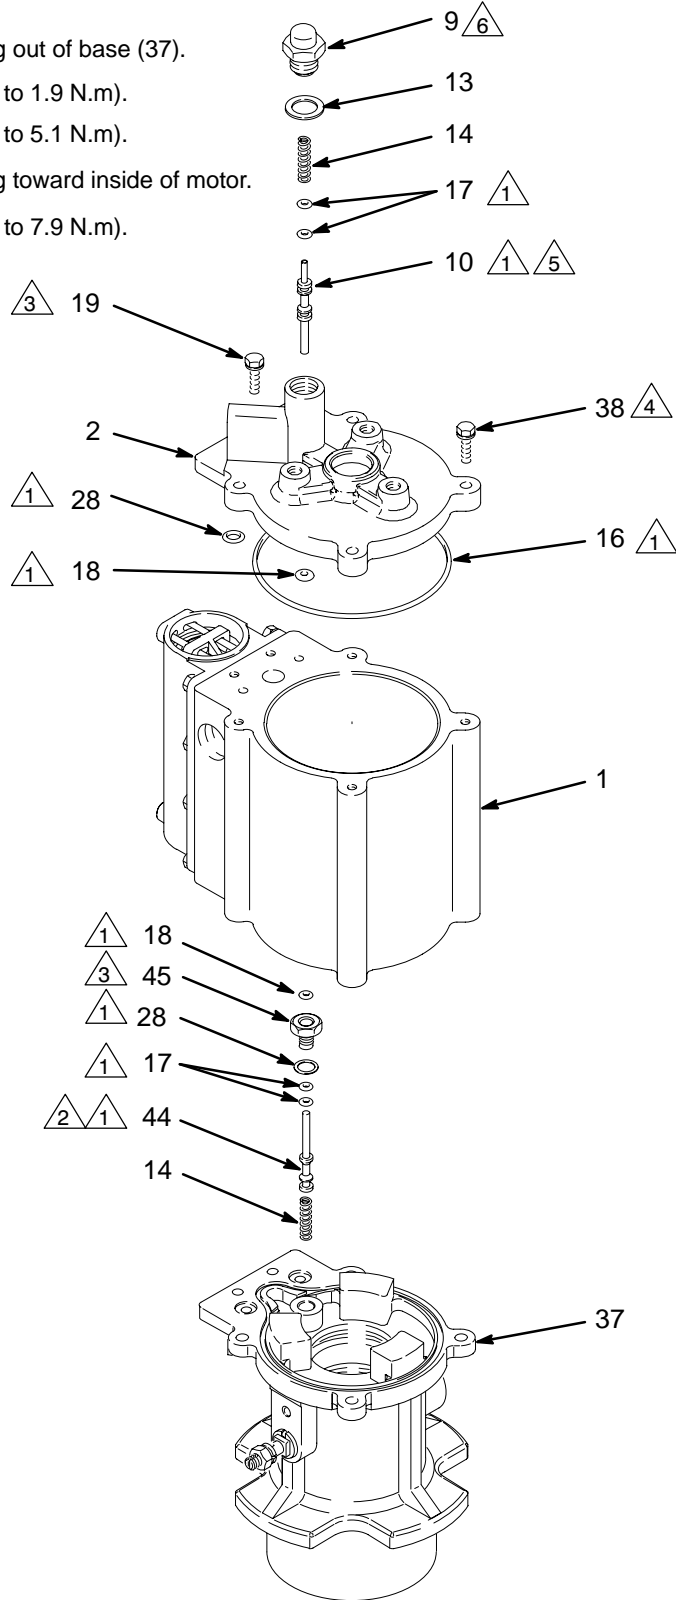

Fig. 7
1. Remove the upper actuator valve plug (9) from the top cap (2). Thread the sealing gasket (13) off the plug (9). See Fig. 7.
2. Pull the spring (14) and pin (10) out of the top cap (2). Remove the two o-rings (17) from the pin.
3. Remove the four screws (38) and two screws (19) holding the top cylinder cap (2) to the cylinder (1). Remove the large o-ring (16) and two small o-rings (28) from the cap. Remove the o-ring (18) from the inside of the top cap.
4. Remove the lower actuator valve plug (45) from the motor base (37). Remove the o-ring (28) from the plug (47). Remove the o-ring (18) from the plug. See Fig. 7.
5. Remove the actuator pin (44) and spring (14). Remove the two o-rings (17) from the pin.
1. Grease the o-ring (18), and install it in the lower actuator plug (45). Install the o-ring (28) onto the plug. See Fig. 7.
2. Install the spring (14) in the motor base (37). Install the two o-rings (17) on the lower actuator pin (44). Grease the pin and o-rings and install the pin in the base with the long end pointing out of the base.
3. Screw the plug (45) into the motor base (37). Torque to 14 to 17 in-lb (1.6 to 1.9 N.m).
4. Grease the two small o-rings (28) and the large o-ring (16). Install them in the recesses of the top cap (2). Grease the o-ring (18), and install it in the inside of the top cylinder cap (2). See Fig. 7.
5. Install the top cap (2) on the cylinder (1). Install the four screws (38), and torque to 35 to 45 in-lb (4.0 to 5.1 N.m). Install the two screws (19), and torque to 14 to 17 in-lb (1.6 to 1.9 N.m).
6. Install the two o-rings (17) on the pin (10). Grease the pin and o-rings, and insert the pin in the top cap (2). The long end must point toward the inside of the motor.
7. Thread the gasket (13) onto the plug (9). Install the spring (14) in the top cap (2). Screw the plug into the top cap and torque to 60 to 70 in-lb (6.8 to 7.9 N.m).